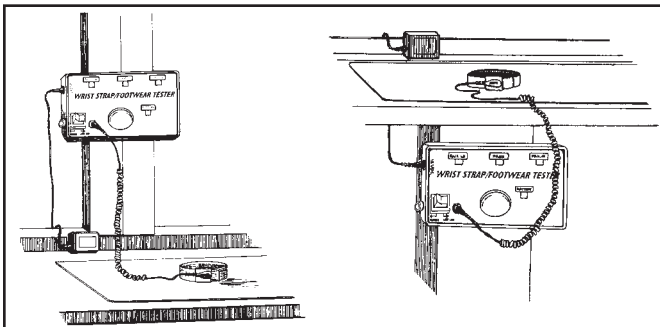

Figure 3. Stationary installation of the Combo Tester
1. Select location for mounting Tester. Install three #6 or #8 screws spaced as illustrated in figure 3, into a wall or other vertical surface. Make sure that the screw heads do not project out more than 1/4" from mounting surface. The template on page four is actual size.